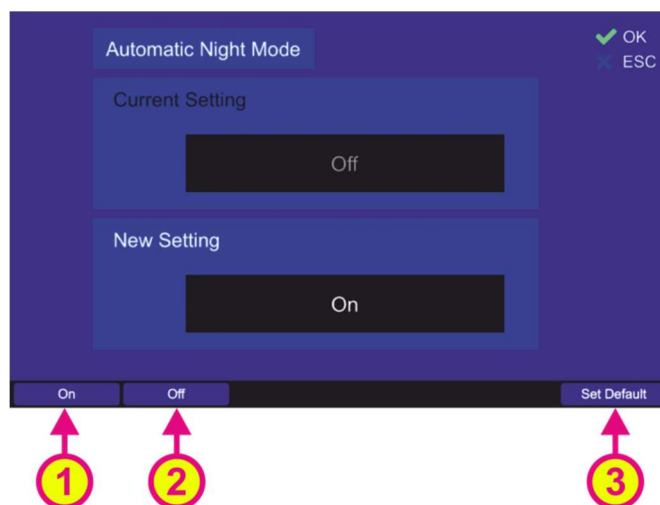

Figure 108. Turning on/off the automatic activation of night mode
Following dialog appears (s. Figure 108).
- Press the hotkey "On" (s. Figure 108, position 1) in order to enable the automatic night mode activation (at the ambient brightness level adjusted in the "Activation Threshold" setting).